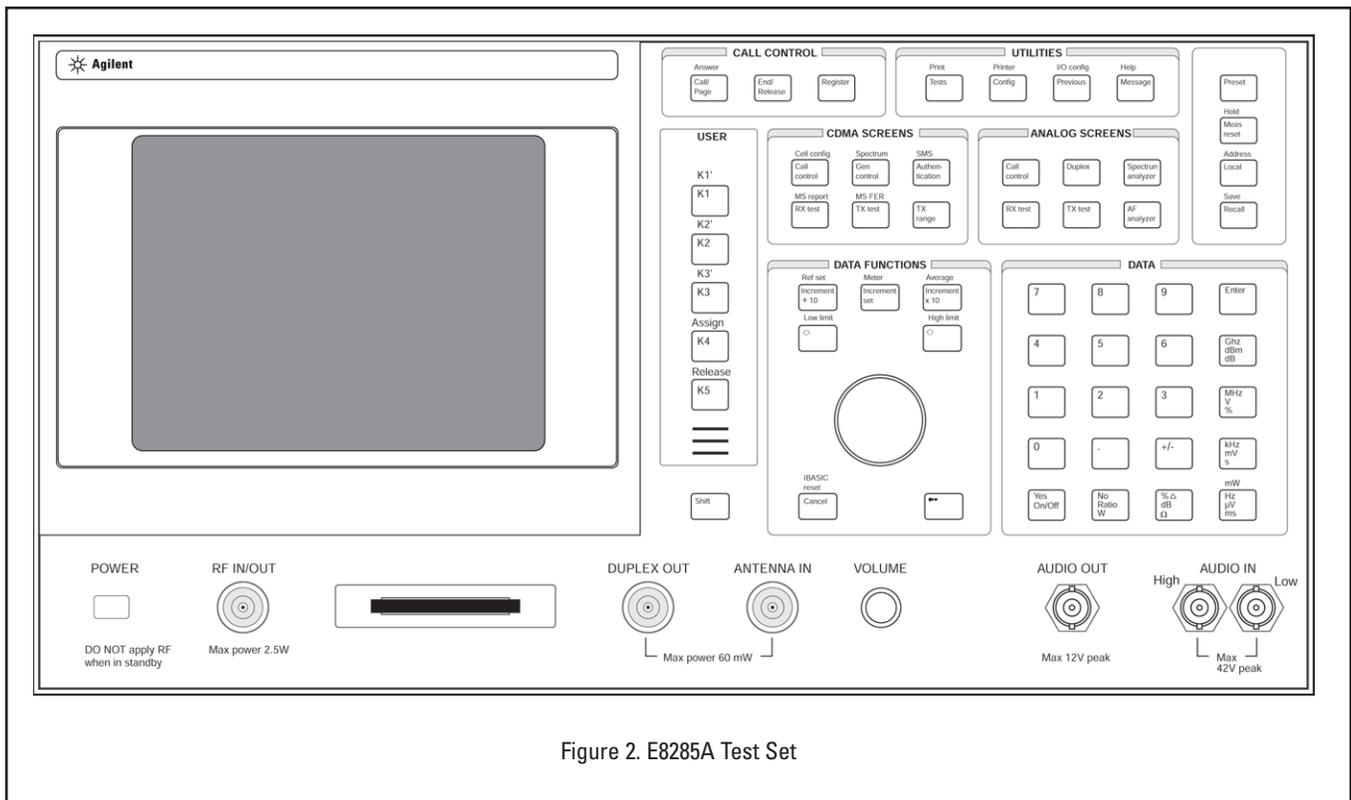

Figure 2. E8285A Test Set
With the E8285A, CDMA PCS, CDMA cellular, and analog test capability is available in a single test set (see Figure 2).
- The E8285A has a new, larger flat-panel electroluminescent display (9.7 cm by 13 cm) (Figure 2).